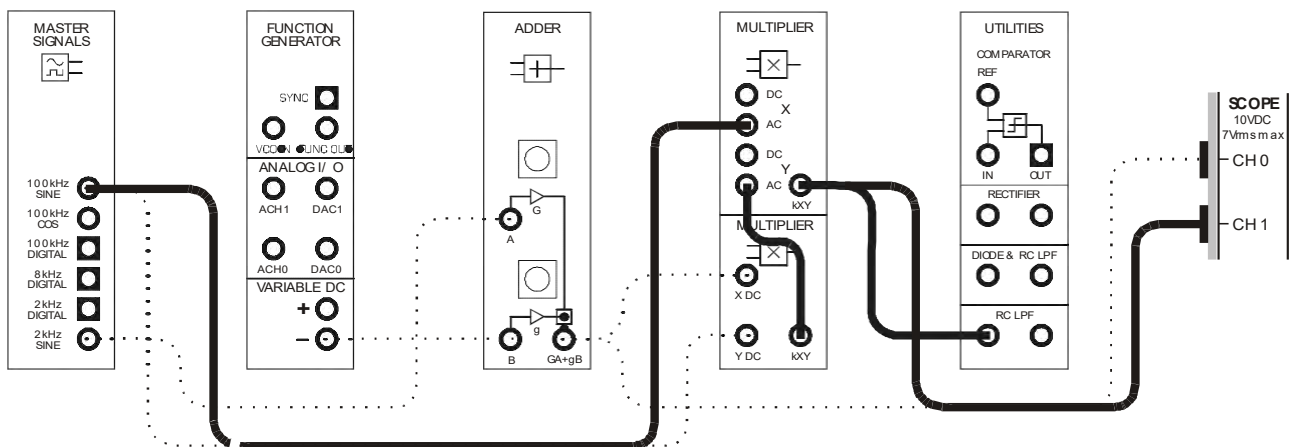
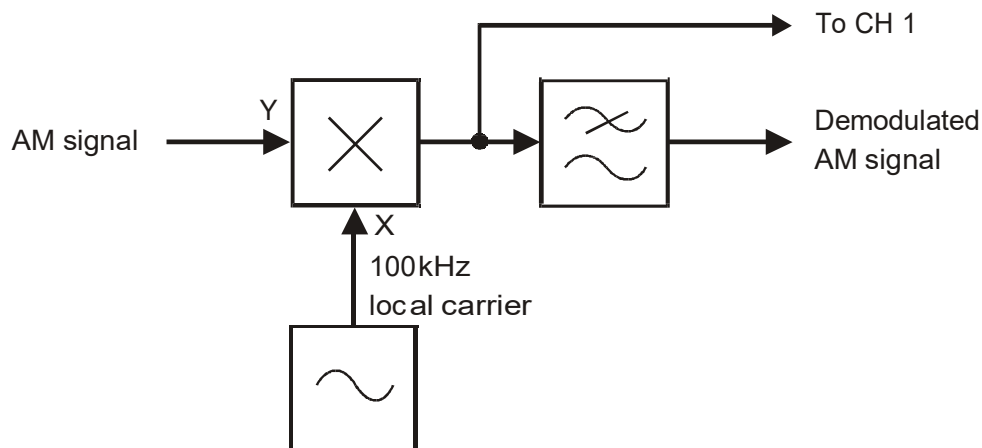

Figure 8
Figure 9
40. Modify the set-up as shown in Figure 8 below.
The additions to the set-up in Figure 8 on the previous page can be represented by the block diagram in Figure 9 below. The Multiplier module models the mathematical basis of AM demodulation and the RC Low-pass filter on the Utilities module picks out the message while rejecting the other sinewaves generated.